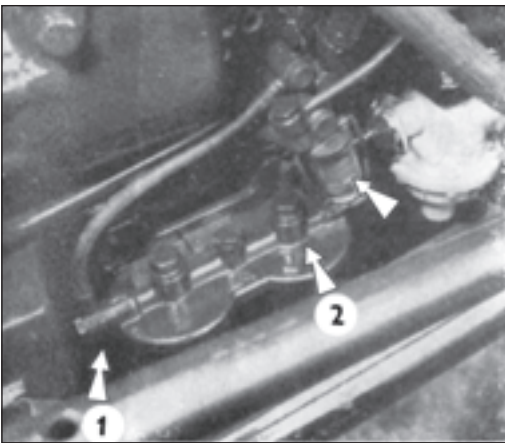

Fig. 169
Pressurize the fuel system by a few strokes of the hand pump, loosen, the screw 1 (Fig. 169) and let the foam escape, tighten the bolt and repeat the whole operation as long as a clear fuel flows down on the loose bolt. The deaeration in the position of the bolt 2 (Fig. 169) will be done in the same way and the next time not later than after 600 engine hours and always when the tractor fuel system has been manipulated.
32. Wash the sedimentation vessel and the screen of the coarse fuel filter (Fig. 169).